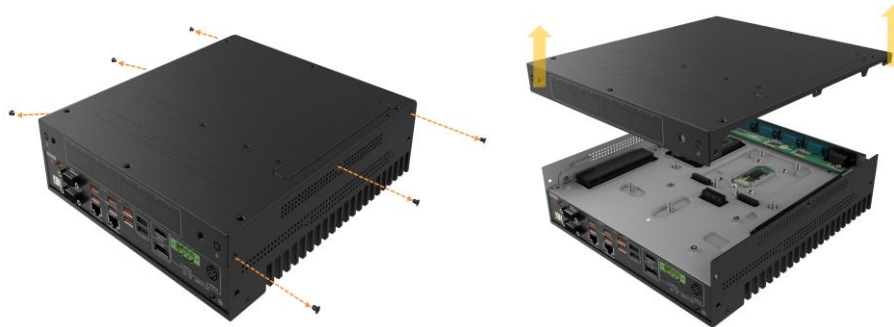

Figure 3-1: Remove the Cover
Step 2: Take off the back cover (See Figure 3-1).